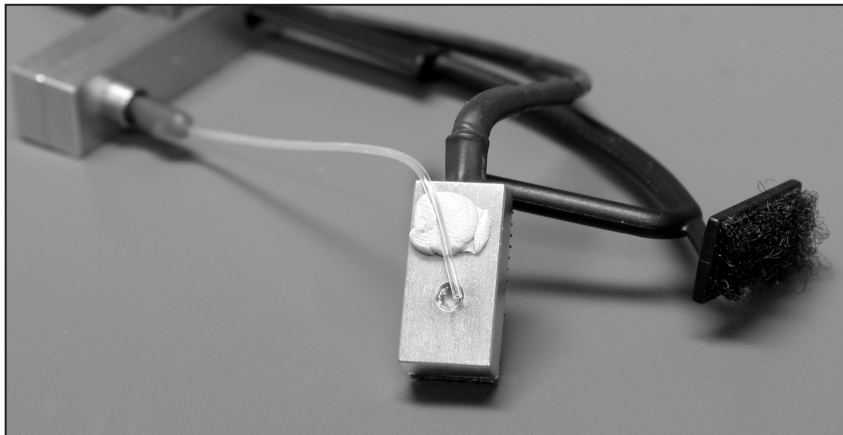

Figure B.1E—Attach probe microphone to reference microphone
16. Place the end of the probe tube at the opening of the reference microphone using a small dab of Fun Tak. You will need to remove the reference microphone from the Velcro wedge. See Figure B.1E.